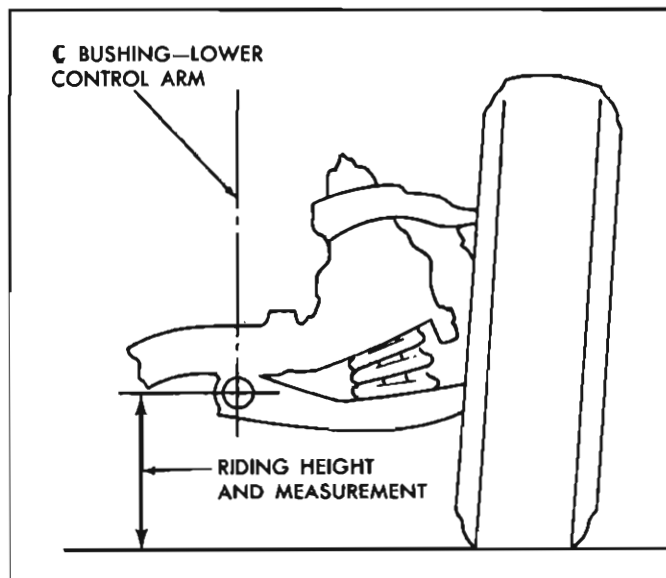

Fig. 3-7—Front Pivot Height
The front riding height (fig. 3-7) is $12'' \pm \frac{1}{2}''$ in 1964 vehicles. Measure as follows:
2. Front height may be checked by measuring the distance from the center of lower control arm pivot bolt to floor (fig. 3-7). This distance should be $12'' \pm \frac{1}{2}''$ with vehicle at curb weight. Measure both sides of vehicle in this manner; the resulting measurements should be within $\frac{1}{2}''$ of each other.